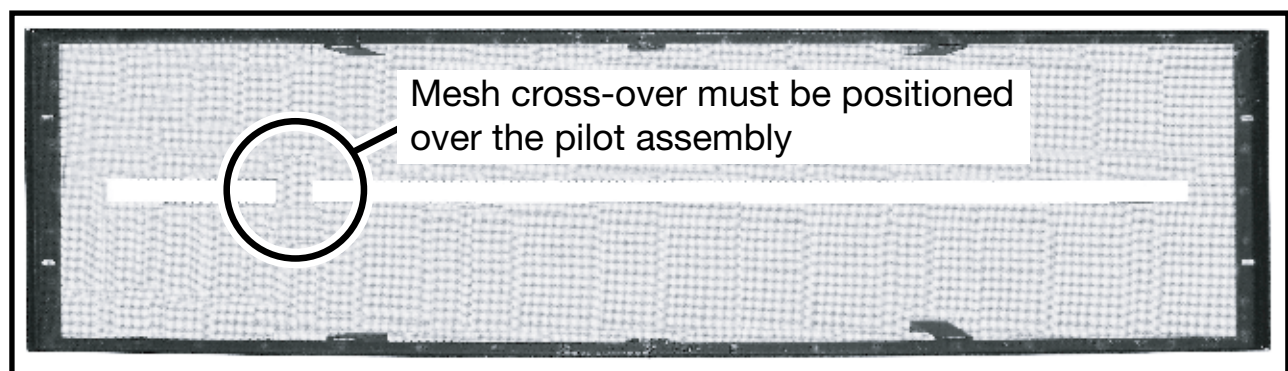

Figure 15: Burner Tray.
15. Place mesh burner tray over top of the burners so that its legs rest on the secondary floor. The side of the tray with the mesh strip crossing over from one side to the other must be positioned over top of the pilot assembly. Screw down the ends of the tray to the ledge of the side panels - two on each side (Figure 15).